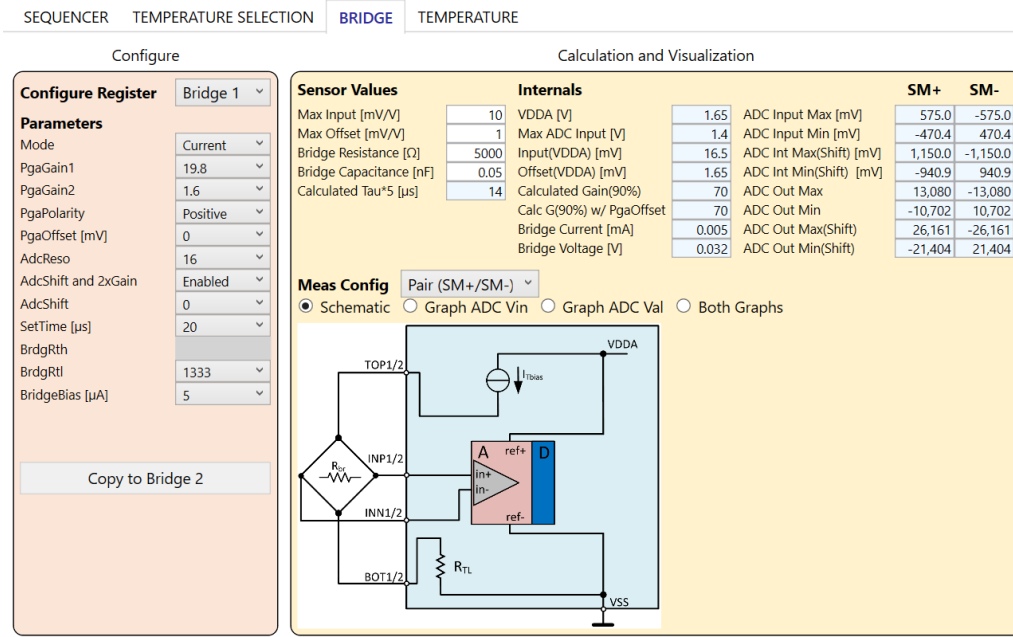

Figure 40. Current Mode
- Current: Configurable internal current source with configurable internal series resistor (Figure 40).